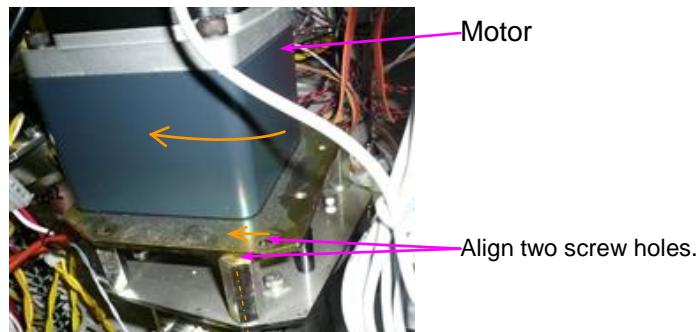

Fig. 4-10-2-23 Alignment of motor unit
(24) Attach the RV positioning disk and the RV positioning board in order (refer to Fig. 4-10-2-2). Connect the positioning board connector to the instrument.